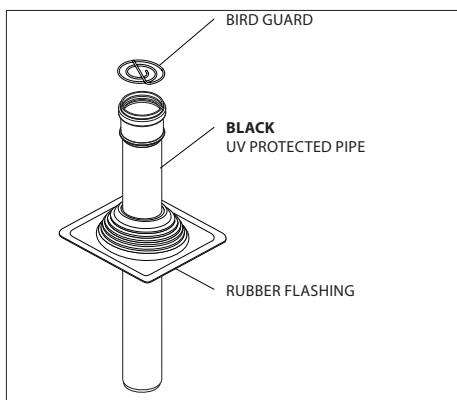

Figure 15- Vertical Pipe Termination
### Vertical single pipe (Fig.15)
2. Attach Flashing to roof. (Fig.15)